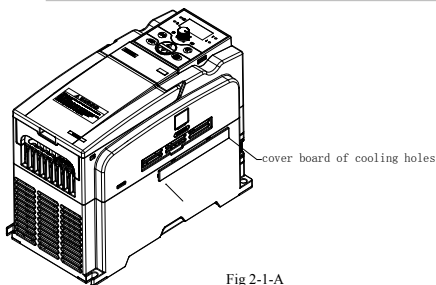

Fig 2-1-A
7. Please install the cover board of cooling holes if there is too much powder in the using environment. (Refer to Fig 2-1-A).